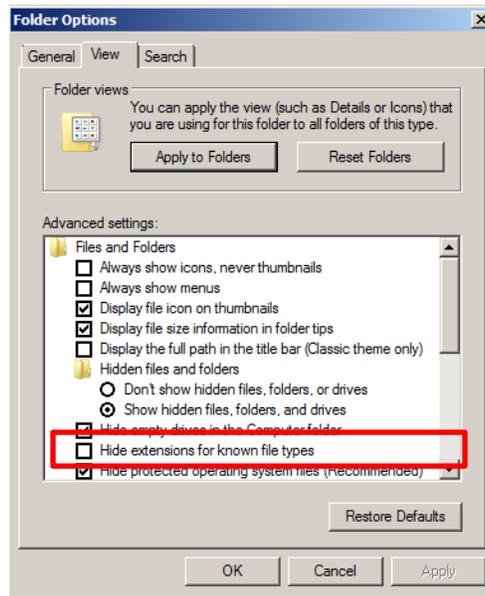

Figure 3-26: Folder Options Window
- b. The *Folder Options* window displays, as shown in Figure 3-26.